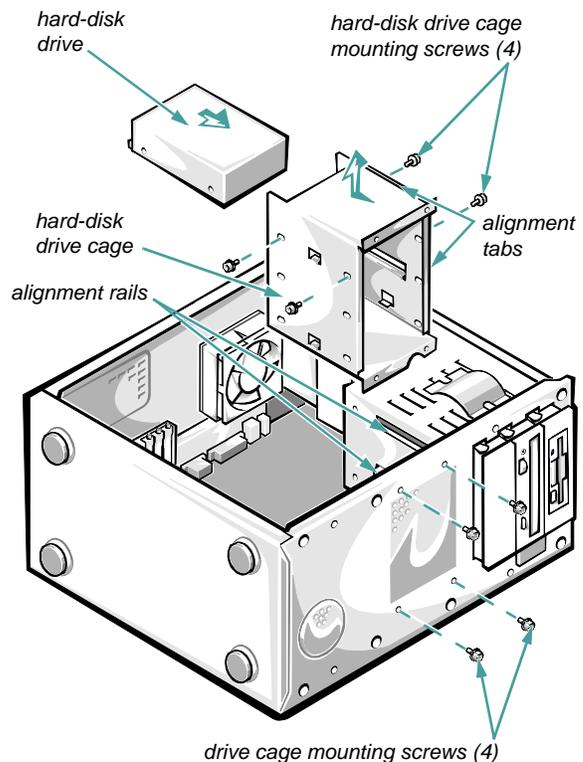

Figure 9-4. Removing the Hard-Disk Drive Cage
6. **Remove the four mounting screws that secure the hard-disk drive cage to the chassis (Figure 9-4).**
10. Reinstall the hard-disk drive cage in the chassis (Figure 9-4).